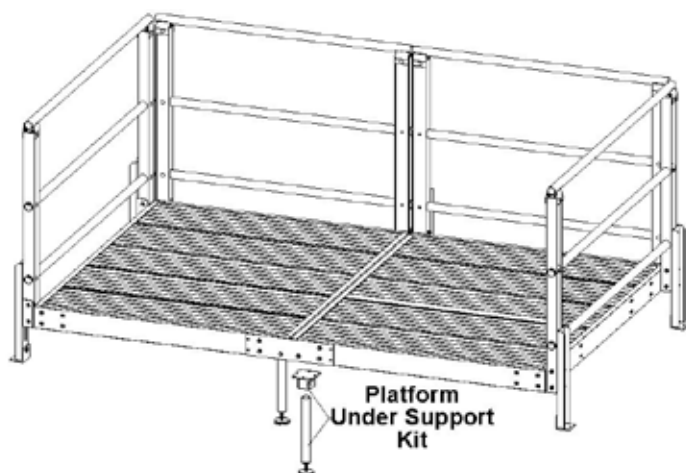
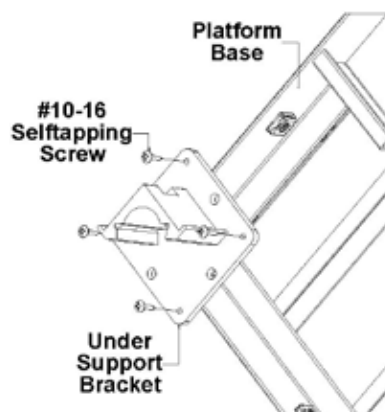
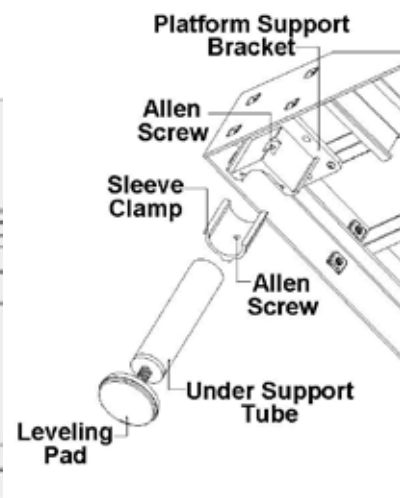

Fig.3.8
Fig.3.9
Fig.3.10
**3.6 Platform Under-Support Attachment:** Locate platform corners that will require a Platform under support kit (**Fig.3.8**). Place under support bracket flush in the underside corner of platform base. Attach using four #10-16 self tapping screws (**Fig.3.9**). Slide the Sleeve Clamp into the under support bracket, then insert under support tube all the way into the created pocket (**Fig.3.10**). Using a 5/32 allen wrench, tighten the set screw all the way down. The leveling pad can be adjusted for minor height differences; however, if major adjustments are necessary, cut down the under support tube using a saw or tube cutter.